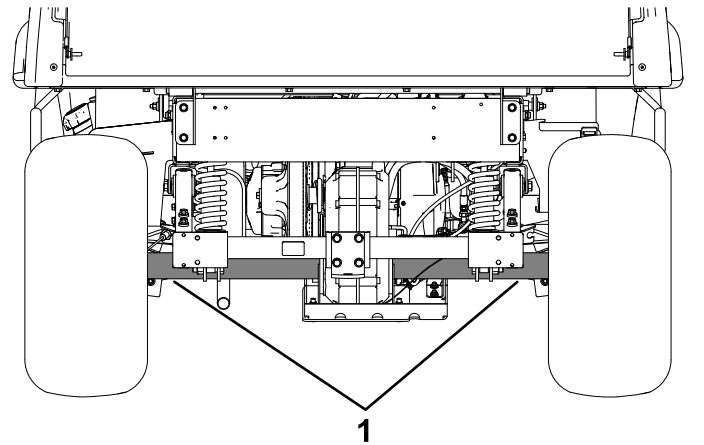

Figure 19
- The lifting point at the rear of the machine is located under the axle tubes (Figure 19).